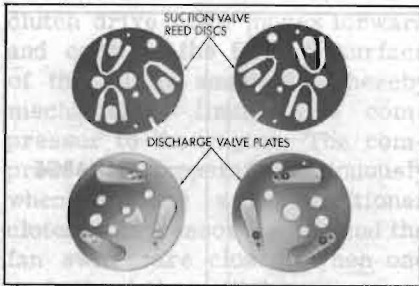

Figure 13-17—Compressor Suction Valve Reed Discs and Discharge Valve Plates
1. Suction Valve Reed Discs and Discharge Valve Plates--The two suction valve reed discs and two discharge valve plates (see Figure 13-17) operate in a similar but opposite manner. The discs are composed of three reeds and function to open when the pistons are on the intake portion of their stroke (downstroke), and close on the compression stroke. The reeds allow low pressure gas to enter the cylinder heads. The discharge valve plates also have three reeds, however, they function to open when the pistons are on the compression portion of their stroke (upstroke), and close on the intake stroke. High pressure gas exits from the cylinder